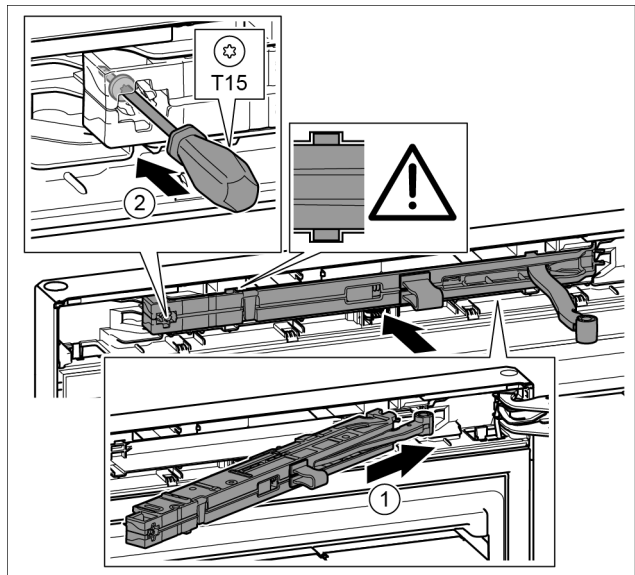

Fig. 19
- ▶ Slide the soft stop mechanism on the bearing bracket side at an angle into the slot as far as the limit stop. Fig. 19 (1)
- ▶ Tighten the screw with the T15 screwdriver. Fig. 19 (2)